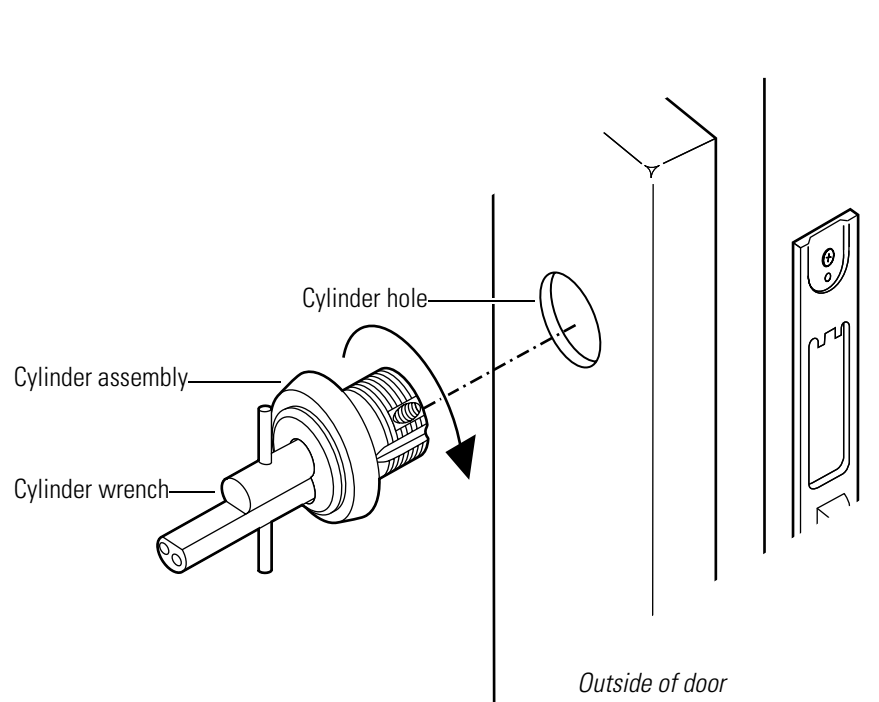

Figure 5.5 Reinstalling the mortise cylinder
4. With the mortise cylinder wrench inserted into the figure-8 opening, insert the cylinder assembly into the cylinder hole on the outside of the door. See Figure 5.5.